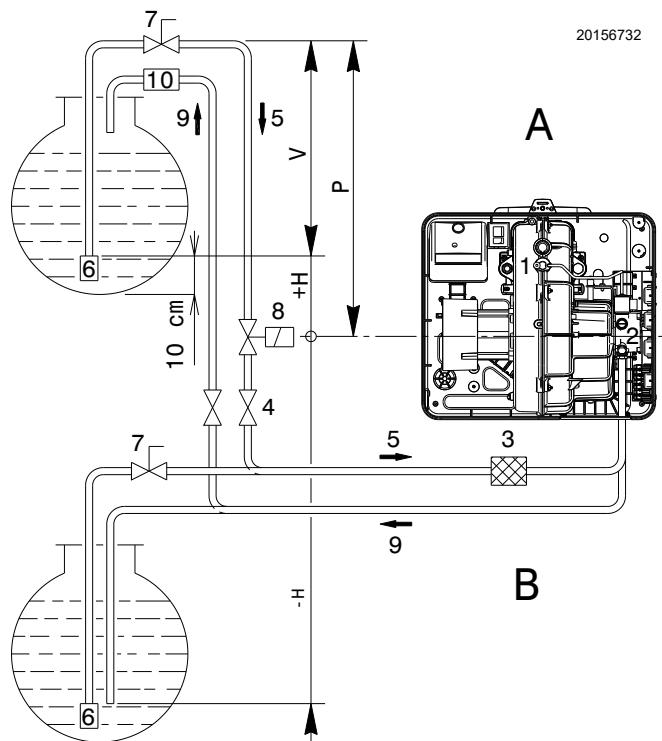

Fig. 17
### Siphon dual pipe systems (A) (Fig. 17)
### Suction dual pipe systems (B) (Fig. 17)
#### Key (Fig. 17)